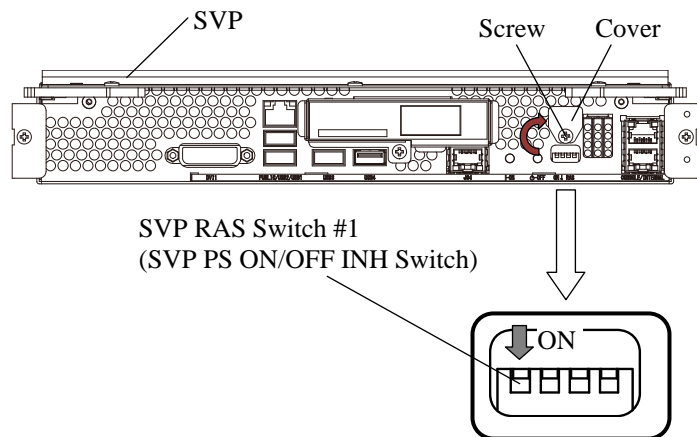

Fig. 3.21.2-3 Setting of SVP RAS Switch #1
- a. Insert the spare SVP until its lever edges reach the DKC. (Refer to Fig. 3.21.2-2.)